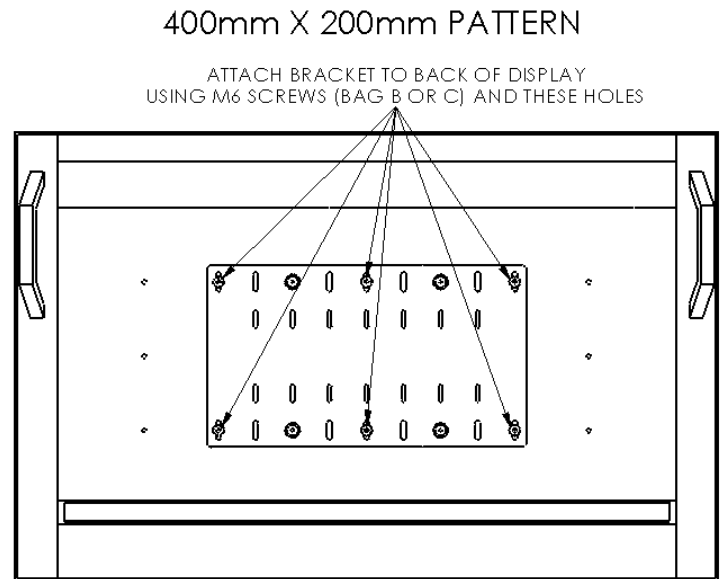

Figure 9. Display with 400mm x 200mm Hole Pattern
2. Attach the MSB-V (10) using the hole-pattern on the back of your display as shown in Figure 9.